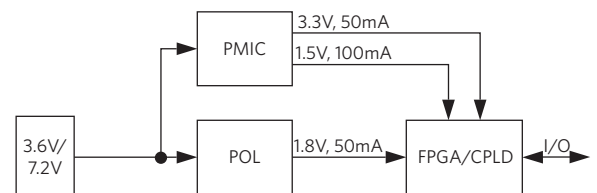

Figure 2. Typical FPGA Power Architecture Used in Communications, Industrial, and Consumer Applications
**Figure 2** illustrates a typical Stratix series FPGA used in a communications application, an Arria series FPGA used in an industrial application, and a Cyclone series FPGA used in a consumer application.